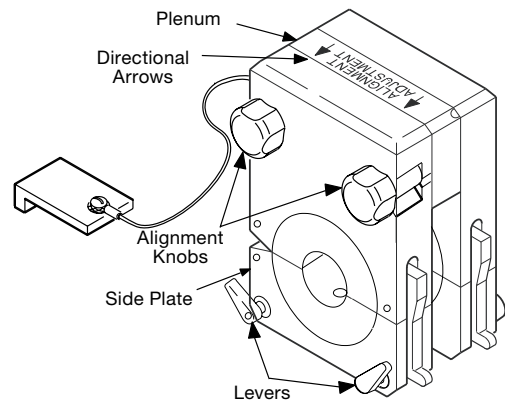

Figure 17 Loosening the Side Plate
1. Turn the fixture block over and locate the directional arrows on the plenum. The arrows point to the appropriate side plate. See Figure 17.
2. Loosen the two alignment knobs just enough to loosen the side plate from the plenum. See Figure 17.